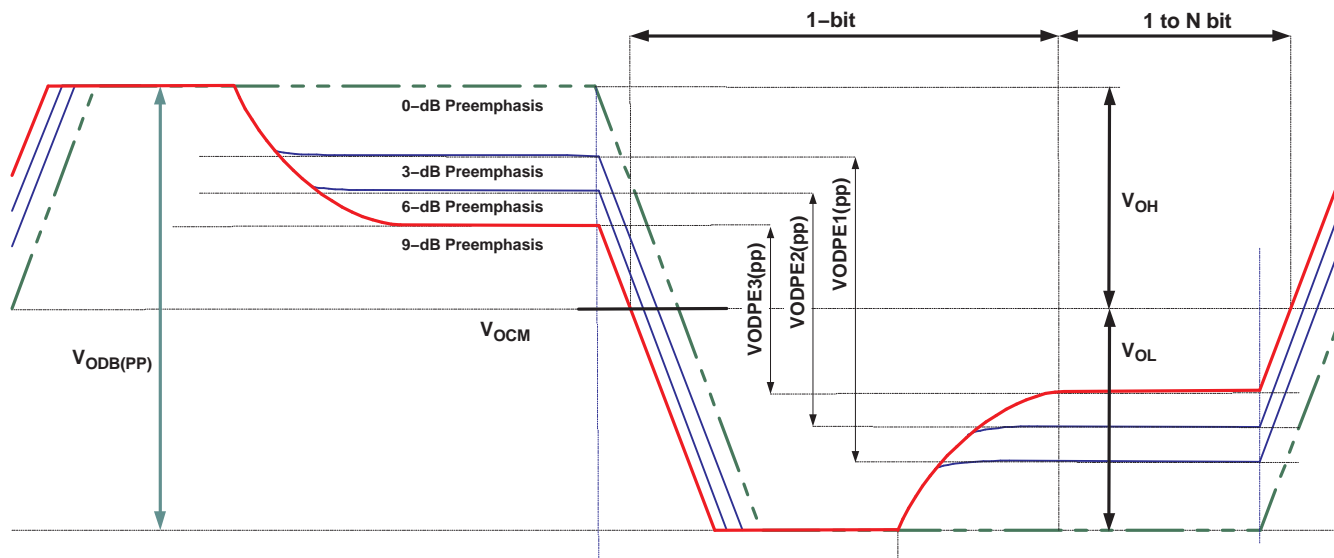

Figure 3. Preemphasis and Output Voltage Waveforms and Definitions
| V _{ODH} | High-level output voltage | R _L = 100 Ω ±1%, P _{x_2} = P _{x_1} =0; 4 Gbps alternating 1010-pattern; Figure 3 | | 650 | | mV _{PP} |
| V _(PE) Output preemphasis voltage ratio, $\frac{V_{\text{ODB(PP)}}}{V_{\text{ODPE(PP)}}}$ | R _L = 100 Ω ±1%; x = L or S; See Figure 3 | Px_2:Px_1 = 00 | | 0 | dB |